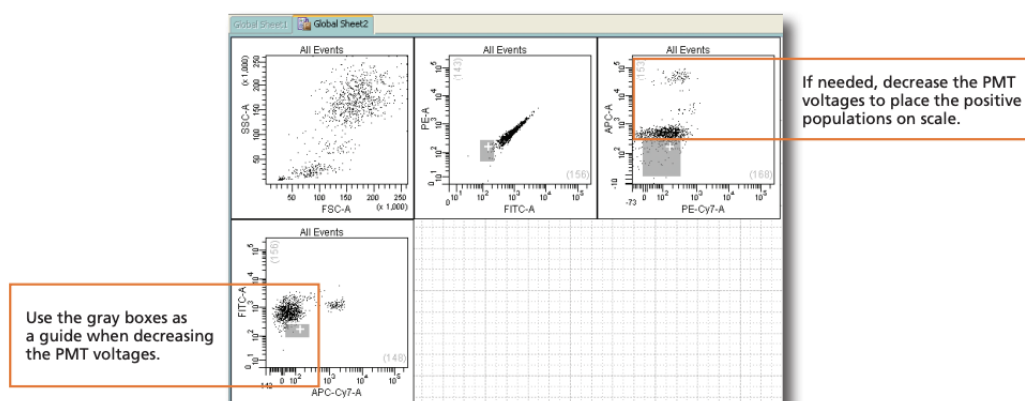

Figure 8 - Optimising PMT voltages for fluorescence detectors
- Load and acquire **Single-Colour Controls**. Make sure you can see a positive population on scale. Adjust the PMTV for the relevant detector(s) (see Figure 8).